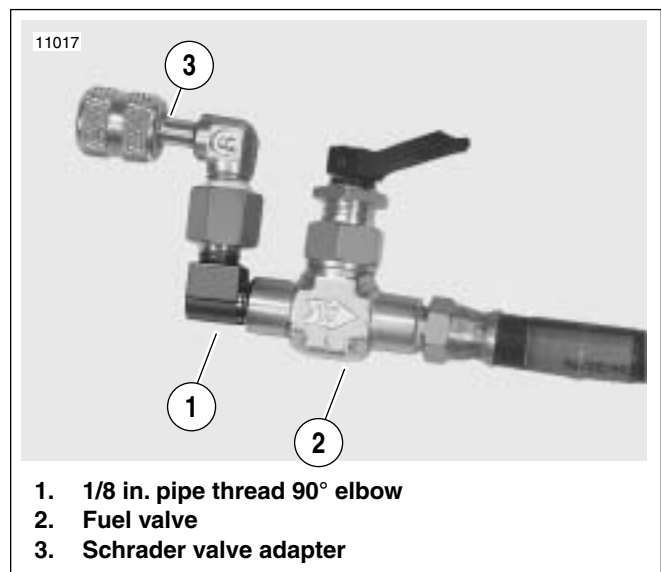

Figure 8-102. Fuel Pressure Gauge Valves
4. See Figure 8-102. Insert a 1/8 in. pipe thread 90° degree (right angle) elbow (1) between the fuel valve (2) and the Schrader valve adapter (3).